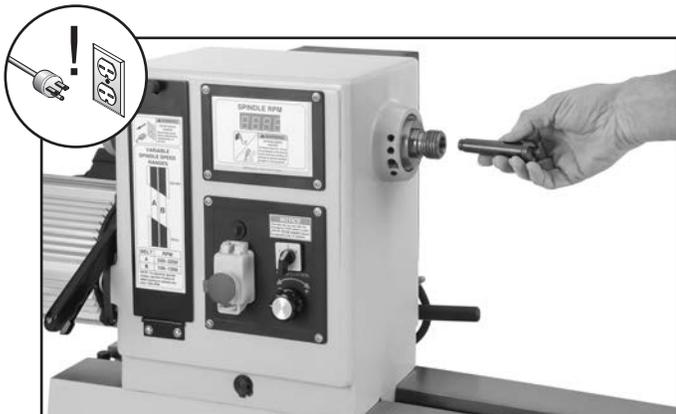

Figure 22. Installing center in headstock spindle.
3. Insert tapered end of center into spindle, and push it in with a quick, firm motion, as shown in **Figure 22**.